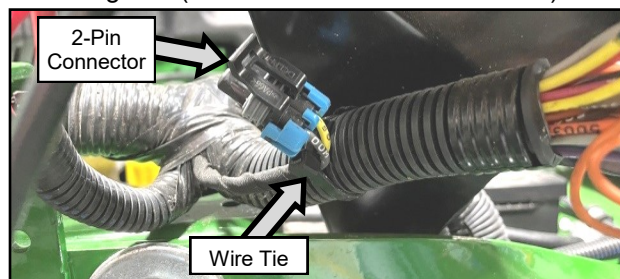

Fig. 1.9 (Remove Cover from 2-Pin Connector)
- 1.9** Remove cover from 2-pin connector found on right side of vehicle. Next, cut wire tie and ensure connector is accessible. See Figure 1.9.